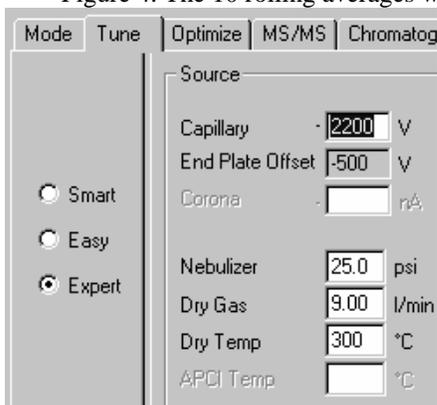
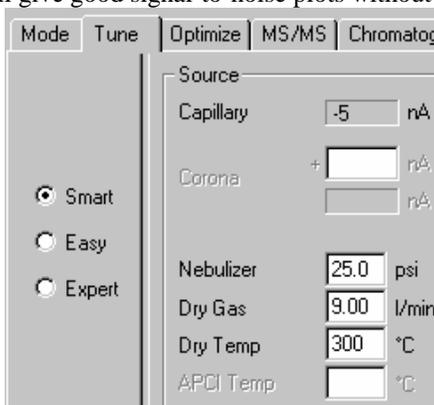
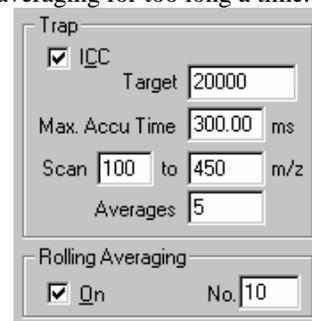

Figure 2. The capillary voltage.
Figure 3. Source settings
Figure 4. Rolling Averages
- The “CH141Cr.m” method should already be started when you get to the MS. Select the “Tune” tab, Figure 2, and the “Expert” mode. Verify that the capillary voltage is 2200V. Switch to the “Smart” mode and verify the source settings as in Figure 3. Check the MS scan range and Rolling Averaging as shown in Figure 4. The 10 rolling averages will give good signal-to-noise plots without averaging for too long a time.